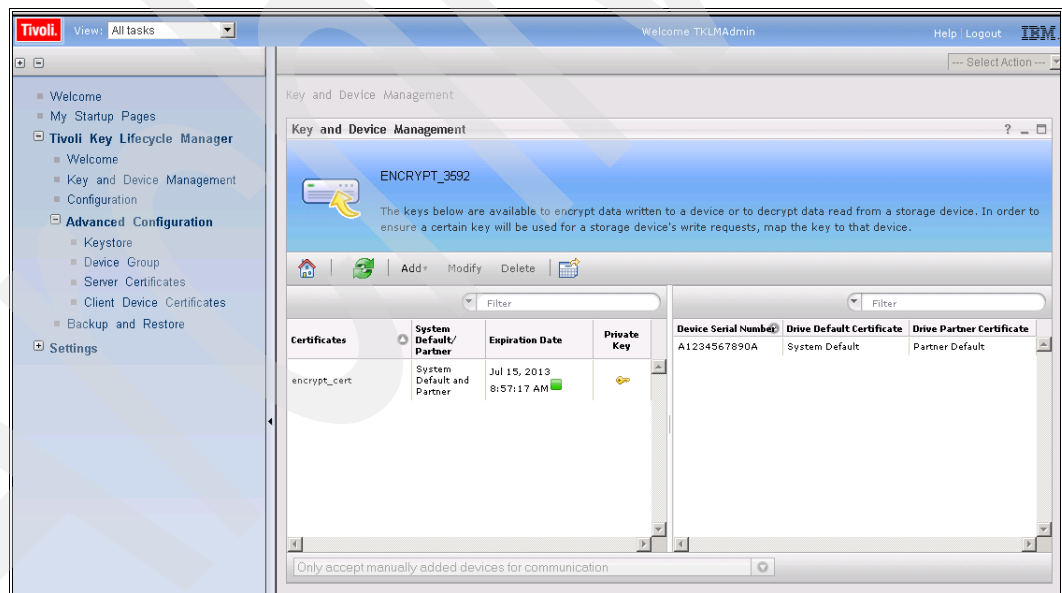

Figure 9-27 Tape drive successfully deleted
5. Figure 9-27 shows the successful deletion of a tape drive from the device group.